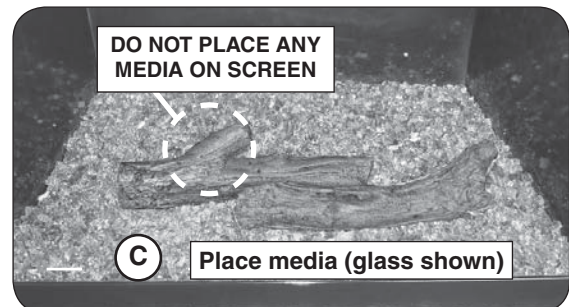

Fig. 28-2 Install media - **glass w/ logs**
3. Pour the glass media (glass/gems) evenly into the burner area, around and between the logs (see Fig. 28-2).